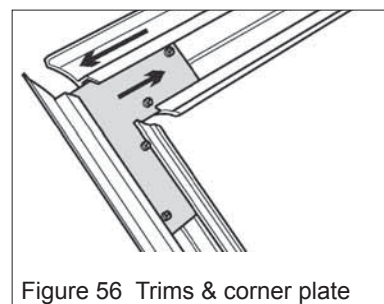

Figure 56 Trims & corner plate
1. Slide a corner connection plate into the channels in the top trim and a side trim. Butt the two trims together. Fit four grub screws and tighten to secure the trims and corner plate. See figure 56.